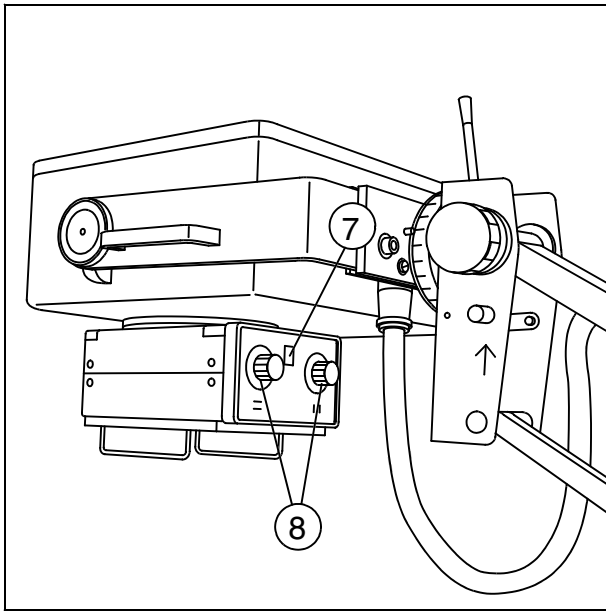
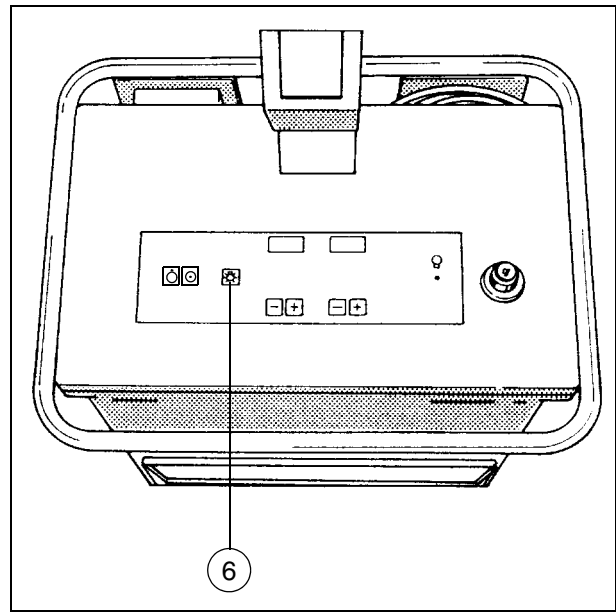

Fig. 9
Fig. 10
- Check the light-beam localizer operated both at the control panel and at the collimator. To do so, press the  button (6/Fig. 10 or 7/Fig. 9), the light-beam localizer lamp lights up for $20\text{ s} \pm 1\text{ s}$.
- Check that format adjustment (blades) is easy and smooth by turning the collimator adjustment knobs (8/Fig. 9).